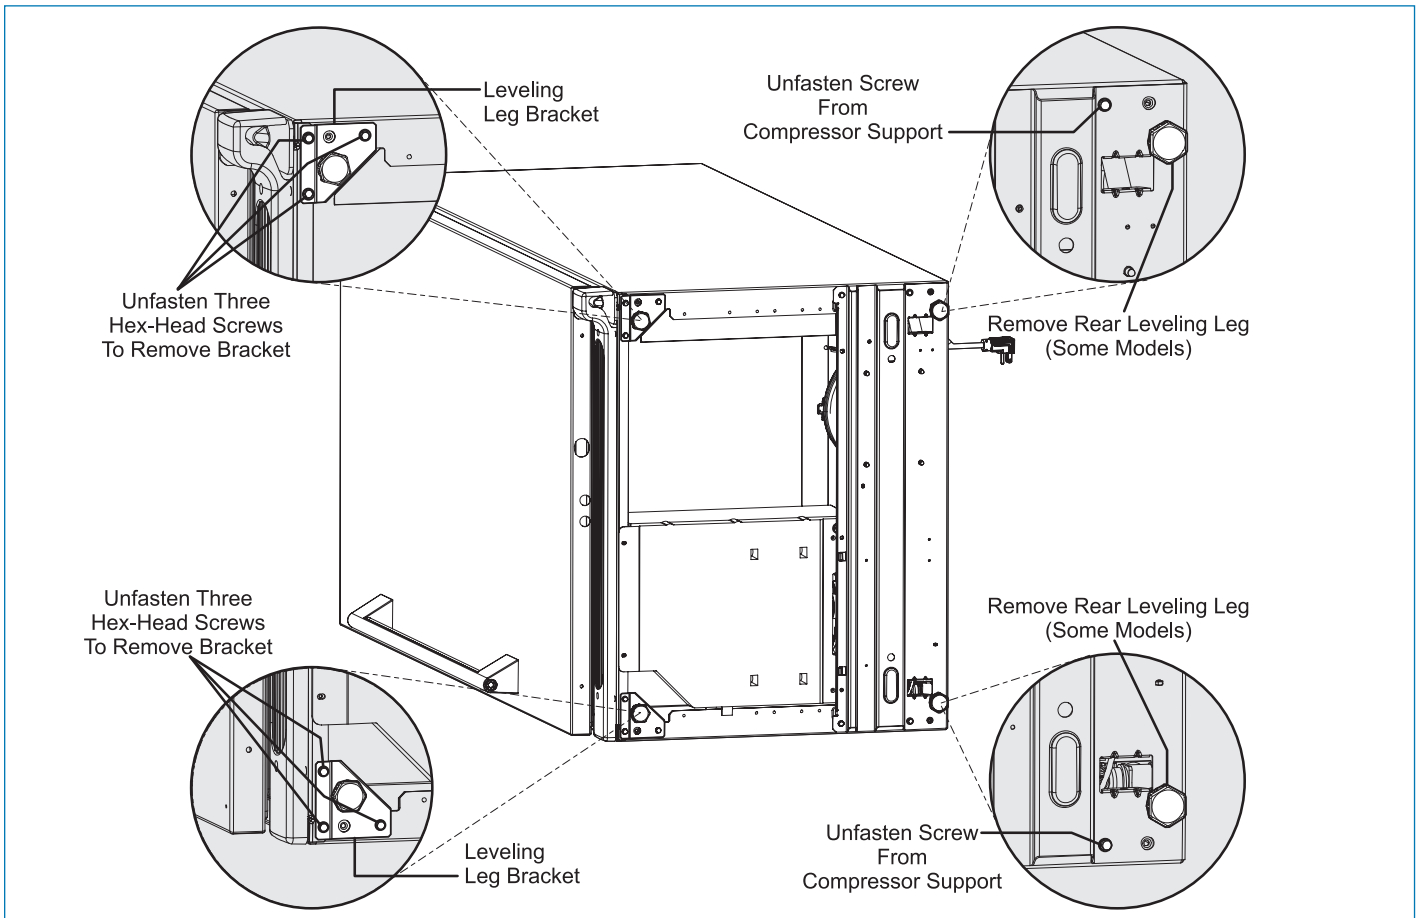

Figure 2-20.
### Installing The Riser Kit On Late Models (See Figure 2-20 to identify)
3. Remove the two front leg leveler brackets, (2) compressor support screws and rear leg levelers, if applicable, as shown in Figure 2-20.